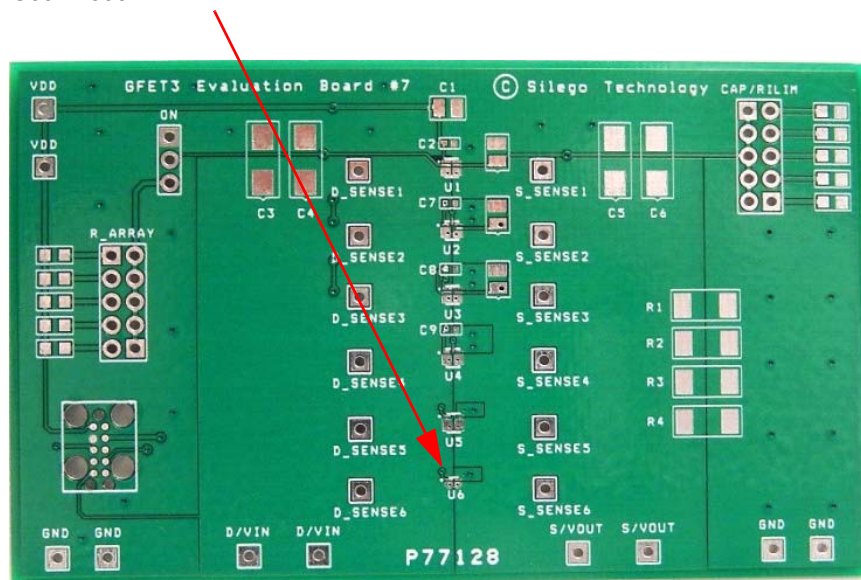

Figure 1. SLG59M1558V Evaluation Board
1. Since the VIN and VOUT pins dissipate most of the heat generated during high-load current operation, it is highly recommended to make power traces as short, direct, and wide as possible. A good practice is to make power traces with an absolute minimum widths of 15 mils (0.381 mm) per Ampere. A representative layout, shown in Figure 1, illustrates proper techniques for heat to transfer as efficiently as possible out of the device;
A GFET3 Evaluation Board for SLG59M1558V is designed according to the statements above and is illustrated on Figure 1. Please note that evaluation board has D_Sense and S_Sense pads. They cannot carry high currents and dedicated only for RDS_{ON} evaluation.